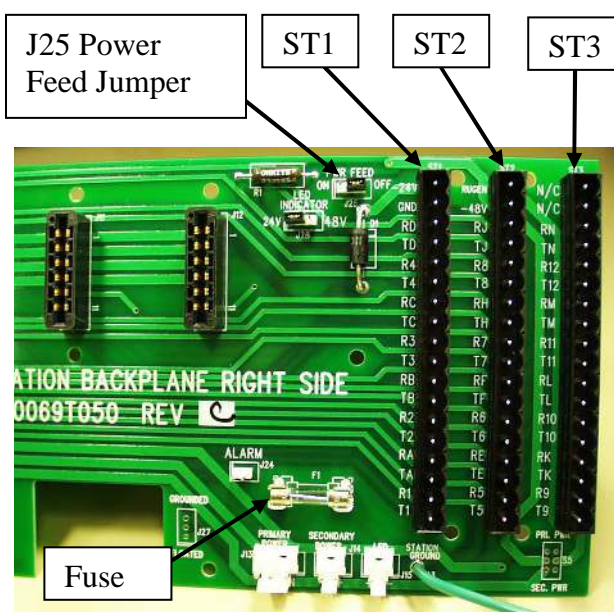

Figure 3: Station Side Push-On Connector Blocks (Unplugged)
- iv) Secure the wire pairs to the appropriate 18-pin terminal blocks marked ST1, ST2, and ST3 by tightening the screws with a small 1/8 inch blade screwdriver. See Table 2 and Figure 3.
- (1) Plug ST1 into ST1 on station side backplane.
- (2) Plug ST2 into ST2 on station side backplane.
- (3) Plug ST3 into ST3 on station side backplane.
- (See Figure 3 and 4)
This jumper must be set to appropriate position for the LED to light. For example, if a -24VDC is used to power the isolation cards, the jumper must be set to 24V (default setting); if a -48VDC is used to power the isolation cards, the jumper must be set to 48V position. (See Figure 3-B)